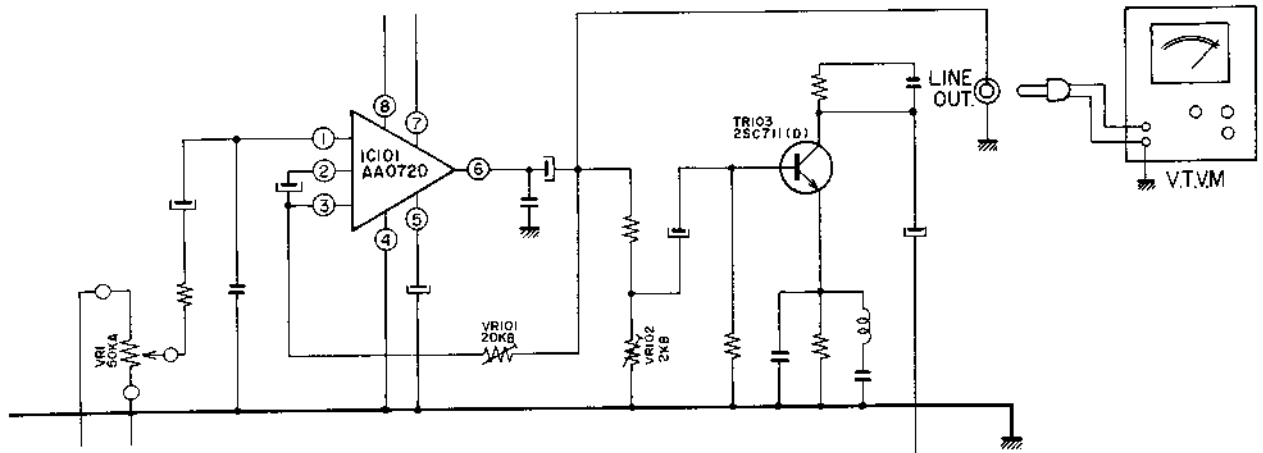

Fig. 3
3. ADJUSTMENT OF LINE OUTPUT LEVEL PLAYBACK (See Fig. 3)
4. RECORDING AND PLAYBACK (Figs. 3 and 4)